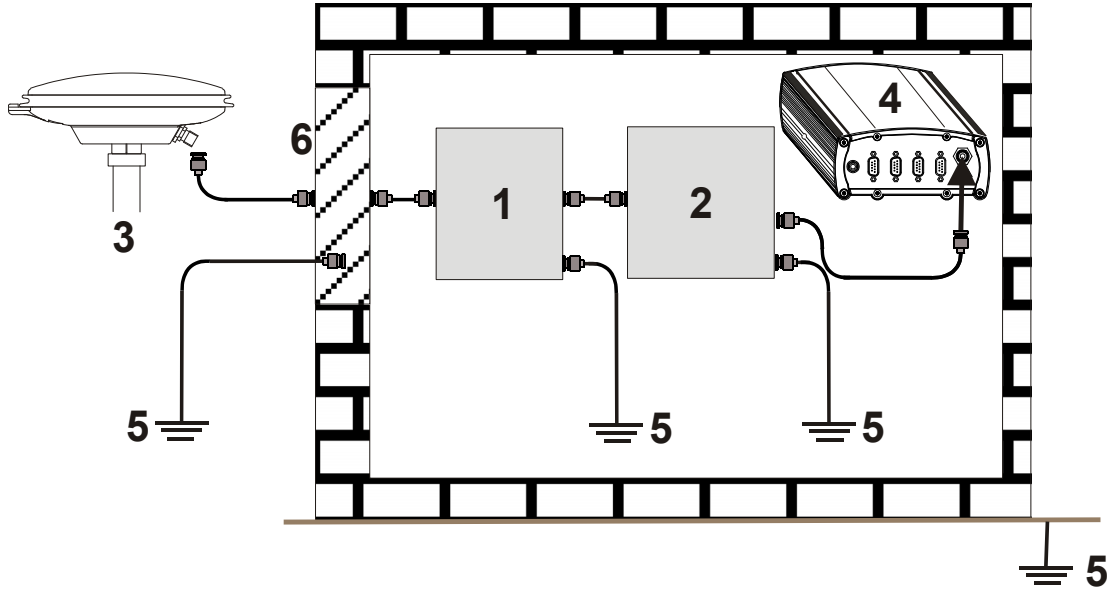

Figure 1: Primary and Secondary Lightning Protection
6. The primary and secondary lightning protections should be as close to the building's entrance as possible. Where feasible they should be mounted onto the grounding plate itself. See also reference 6 in *Figure 1, Primary and Secondary Lightning Protection* on *Page page 2*.